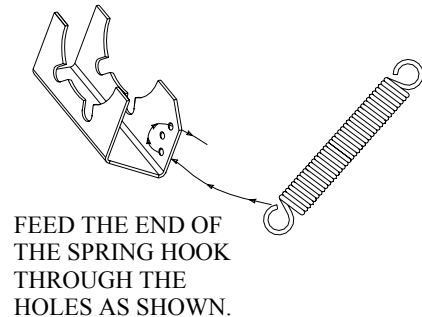

Figure 43. Spring Bracket Assembly
4. Assemble the spring to the spring bracket by sliding the loop of the spring up through the third hole in the bracket, **see figure 43**.